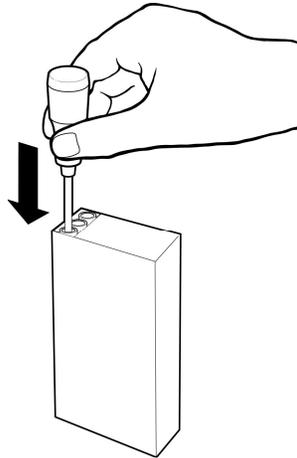

Figure 10: **Loading the Probe Cover**
- 3) Load a probe cover onto the probe by holding the probe collar with the thumb and forefinger, being careful not to hold or press the ejection button. Refer to Figure 10.